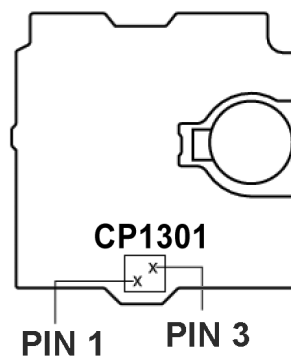
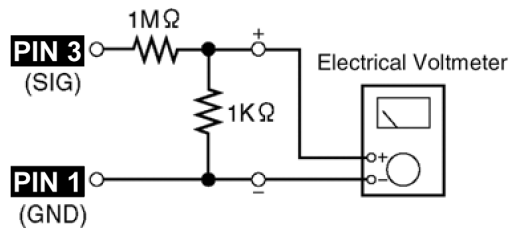

Fig. 9
Fig. 12
1. Connect an electrical voltmeter. (Fig 12) (Fig 9 for location of Test point)